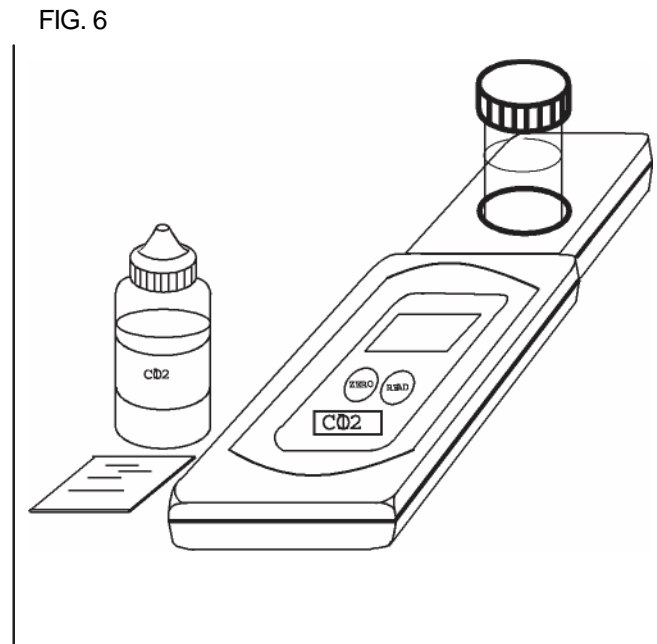

FIG. 6
- Determine the free chlorine content using a diethyl-p-phenylenediamine (DPD) colorimeter test kit (see FIGURE 6.), Not included with ClO₂ sensor and flow cell.